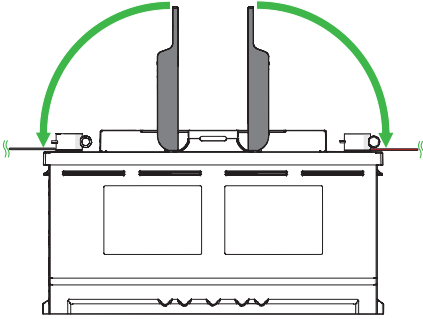

Figure 2.
4. Place the handle covers over the terminals. (Figure 2)